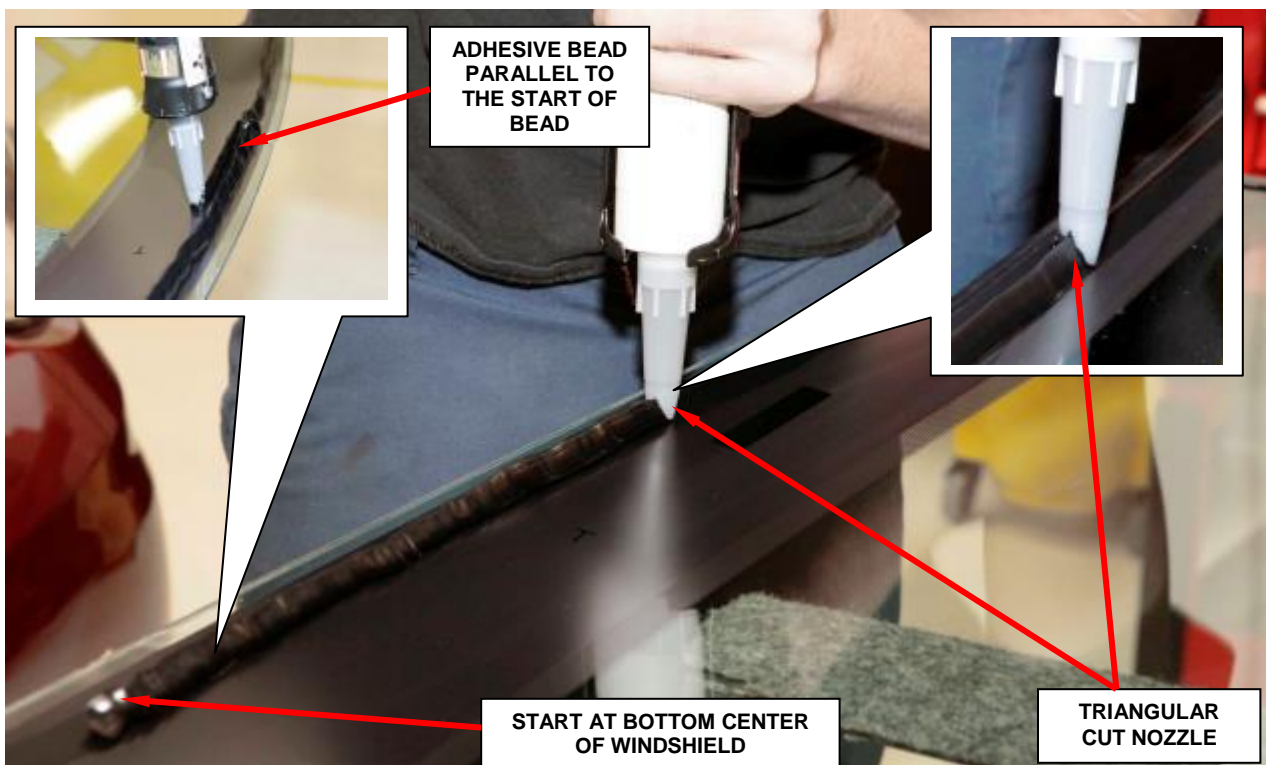

Figure 10 – Apply Adhesive Bead
27. Apply approximately a 0.4 in. (10 mm) wide bead of adhesive with a triangular nozzle approximately 0.25 in. (6 mm) from the edge of the glass starting at the bottom center of the windshield (Figure 10).
28. Run the end of the adhesive bead on the windshield parallel to the start of the bead and smooth the ends flush (Figure 10).